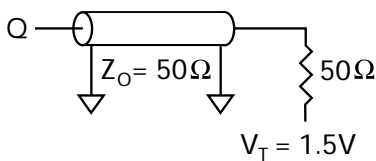
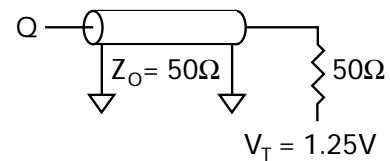

Figure 1
Figure 3
8. Test conditions as specified with output loading as shown in Figure 1 for 3.3V I/O ($V_{DDQ} = +3.3\text{V} \pm 0.165\text{V}$) and Figure 3 for 2.5V I/O ($V_{DDQ} = +2.5\text{V} + 0.4\text{V} / -0.125\text{V}$).
8. Test conditions as specified with output loading shown in Figure 1 for 3.3V I/O ($V_{DDQ} = +3.3\text{V} \pm 0.165\text{V}$) and Figure 3 for 2.5V I/O ($V_{DDQ} = +2.5\text{V} + 0.4\text{V} - 0.125\text{V}$).
Output load	See Figures 1 and 2
Output load	See Figures 3 and 4